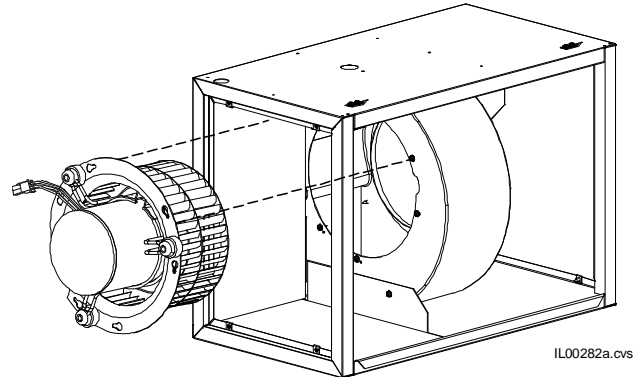

Figure 1. Quick motor replacement (QMR) feature
**Quick motor replacement (QMR)** – The QMR feature is a quick twist-and-lock motor mount for easy maintenance. The motor is mounted to the inlet ring which is attached to the blower housing with six screws through twist-lock keyholes. When service is required to the motor or the wheel, the entire assembly may be removed as a whole. See Figure 1.